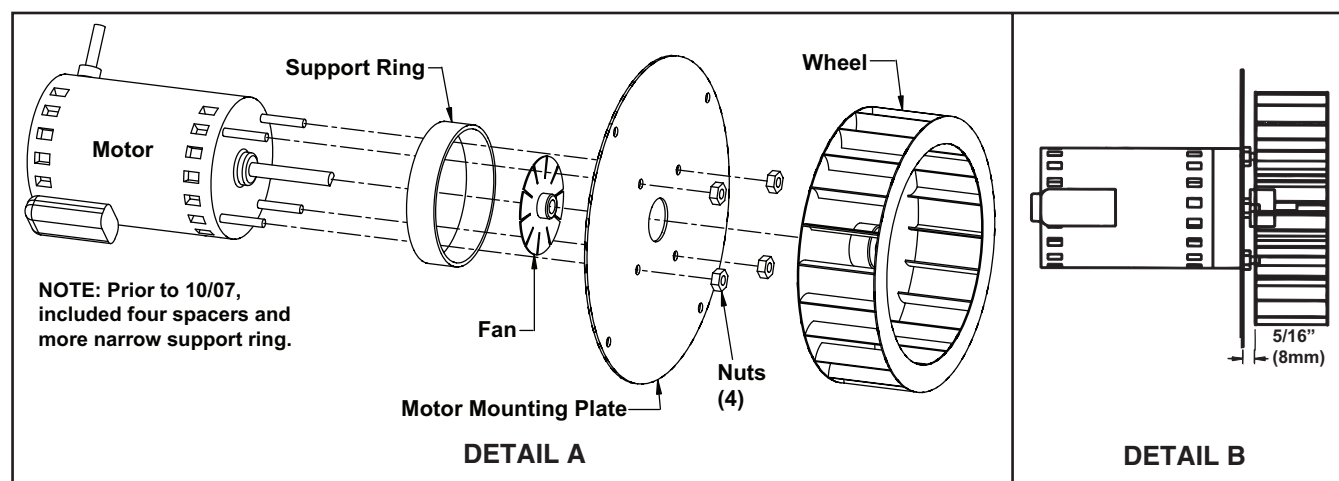

Figure 31. Venter Motor and Wheel Assembly
5. Disassemble motor and wheel assembly (see Figure 31, DETAIL A):
- e. Slide venter wheel over end of shaft with closed side toward motor. Position wheel with spacing shown in **Figure 31**, DETAIL B and tighten setscrew to flat side of motor shaft.